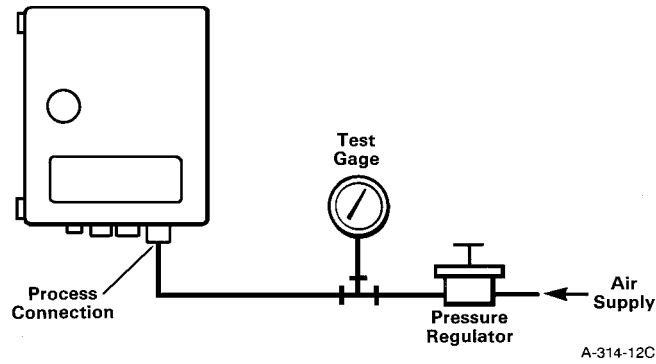

Figure 10. Test Hookup for Pressure Calibration
1. Prepare a pressure input hookup or temperature bath. Refer to Figure 10 or 11.